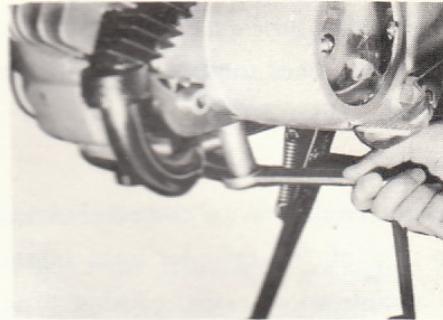

Fig. 3-8
6. Drain the transmission oil. (Fig. 3-8)